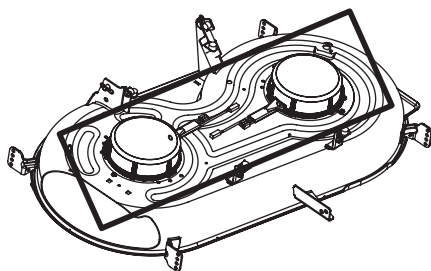

Figure 30
- Do not use water on any part of the tractor (Figure 30). Doing so can cause damage to the tractor's electrical components and motors. The use of compressed air and/or leaf blower or a brush, damp sponge or rag will help keep the tractor clean.